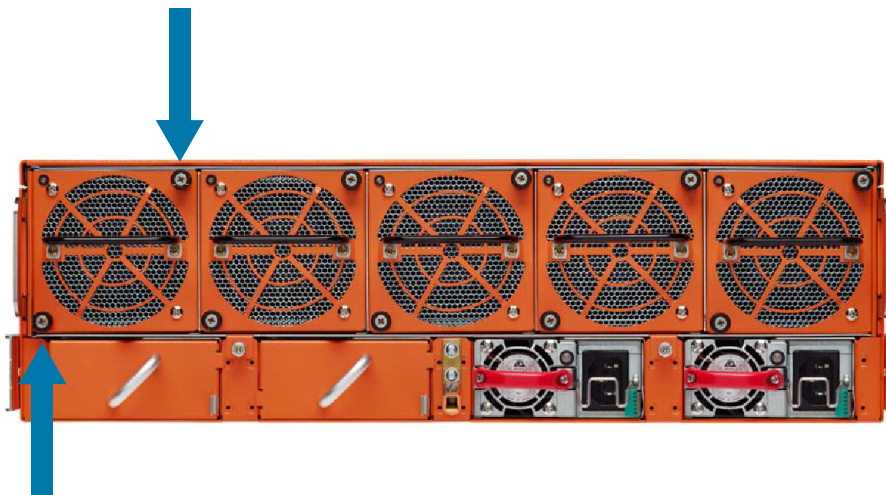

Figure 4-7: Fan Module Screw Location on GigaVUE-HC3 Rear
1. Locate the two thumb screws on the fan module as shown in Figure 4-7 on page 79.
5. Tighten the thumb screws on each fan module, then use a Phillips screwdriver to tighten the screws. Refer to Figure 4-7 on page 79.